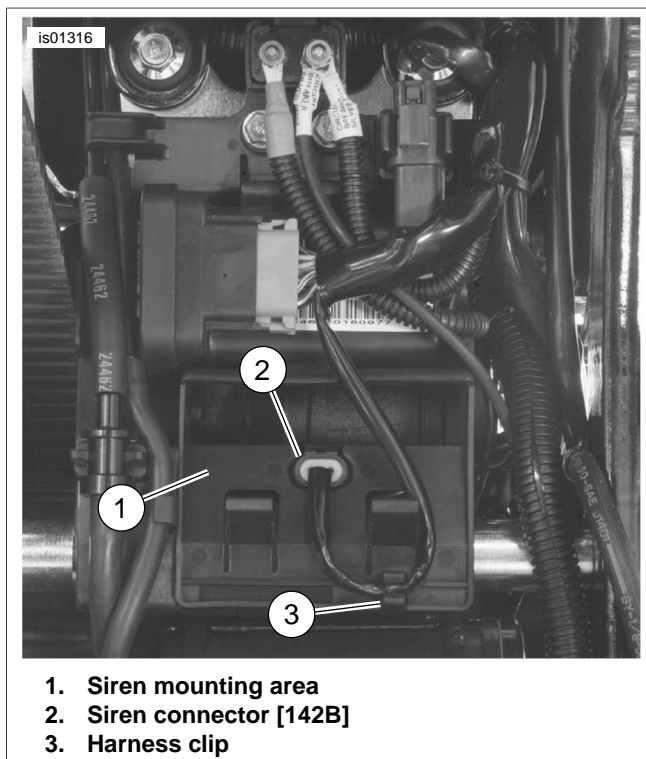

Figure 18. Siren Connector (Softail Models EXCEPT FXCW/C) (Rear Fender View with Rear Wheel Removed)
3. See Figure 18. Remove the siren connector [142B] (2) from the receptacle in the siren mounting area (1) of the electrical panel.